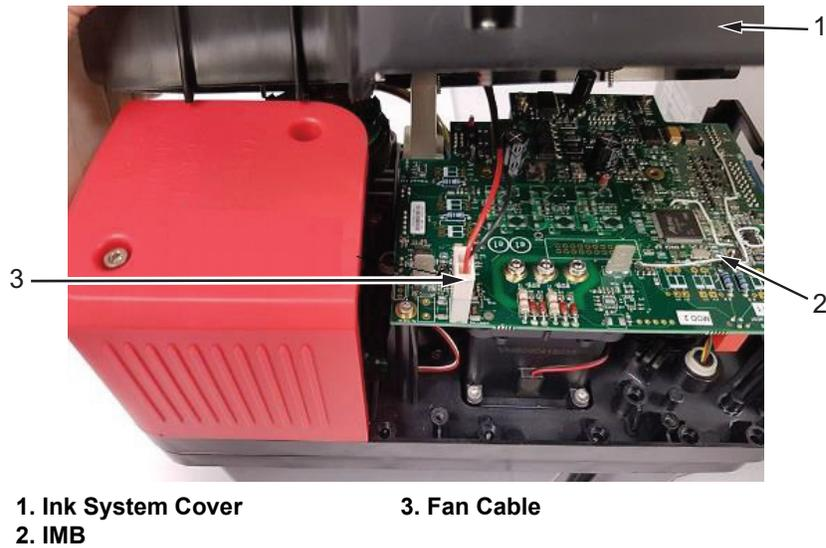

Figure 4-6: Ink System Fan Cable Removal
- Carefully lift the ink system cover and disconnect the fan cable (item 3, Figure 4-6) connected between ink system fan and IMB. Remove the ink system cover.